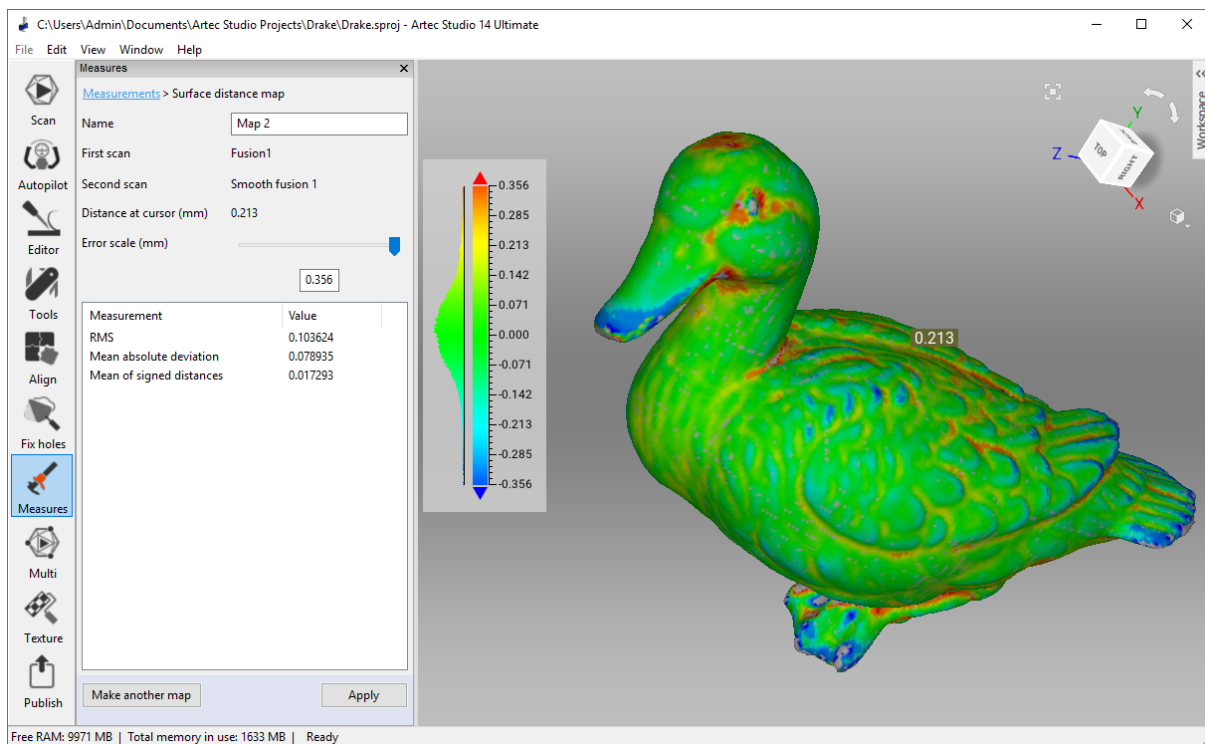

Figure 120: Surface-distance map calculated for two models.
5. Click *Calculate*. Once the process is complete, the distance map will appear in the *3D View* window and the calculation results in the *Measures* panel (see Figure 120).